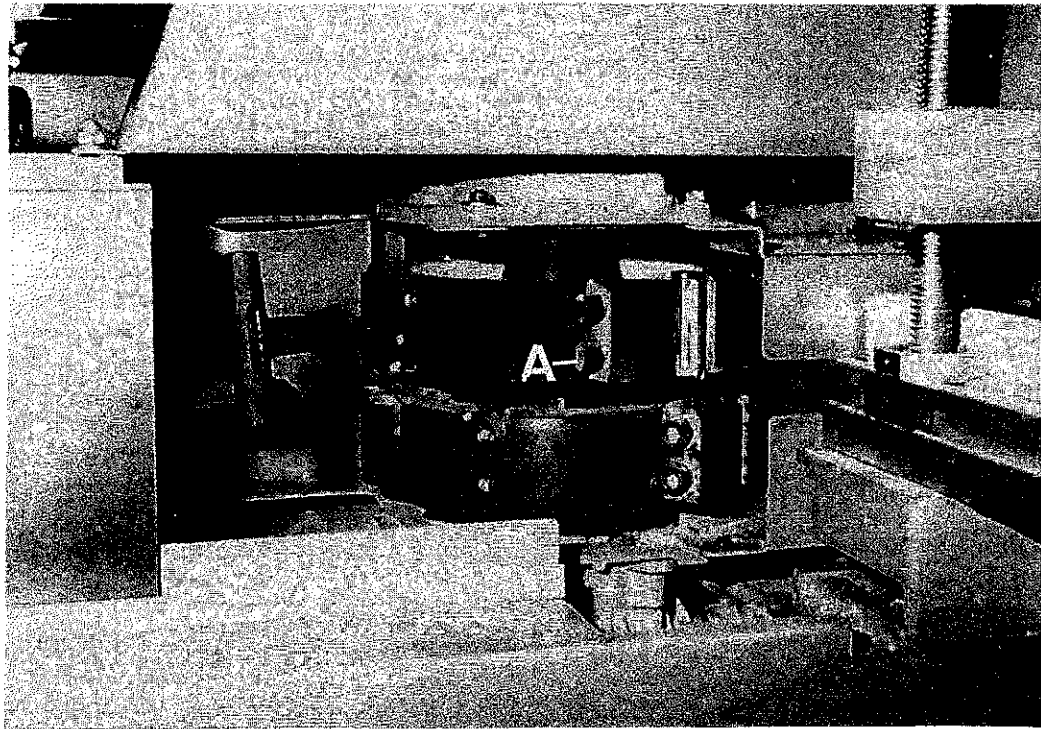

FIG. 21
The scribing cutters are fitted to easily removed cartridges which are held in the main tenon blocks by screws 'A', FIG.21.
- a) Traverse head unit to cut-out in guard as shown in FIG.21.
- d) Loosen cartridge locking screws 'A', FIG.21.